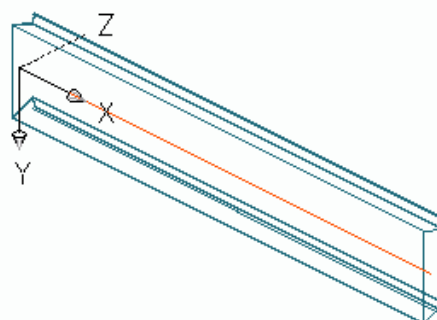

Figure 82: Krupp box section
- Select a suitable user coordinate system (see Figure 82).